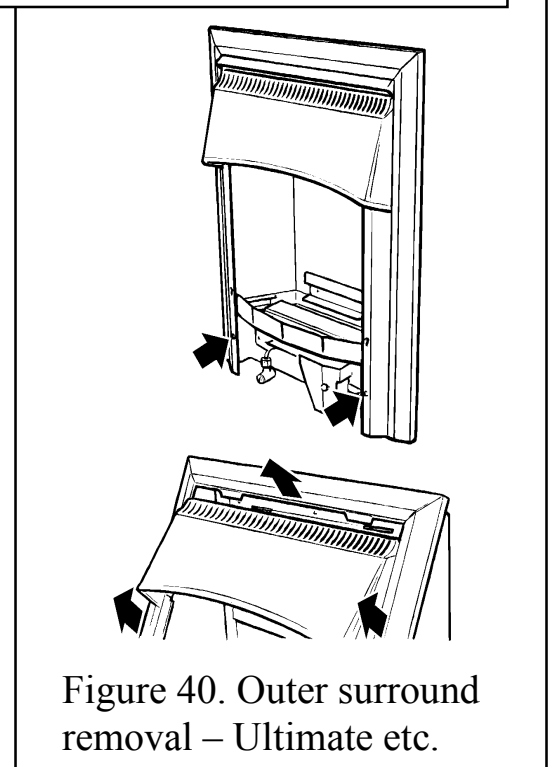

Figure 40. Outer surround removal – Ultimate etc.
3. Remove the two screws securing the bottom of the front surround to the sides of the convection box. See figure 40.
4. Raise the front surround to allow the retaining lugs at the top to clear the slots in the convection box hood. See figure 40. Carefully remove the surround. Place carefully aside.